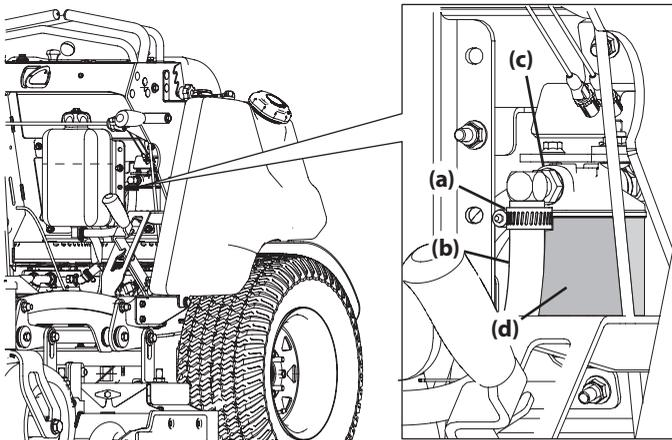

Figure 27
2. Loosen the hose clamp (a) securing the transmission oil hose (b) to the transmission oil filter assembly (c) (Figure 27).